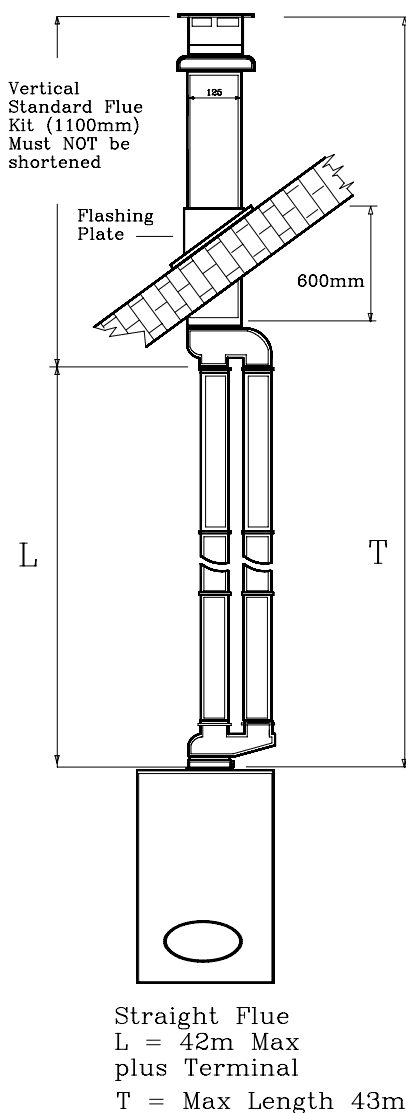

Fig. 25
**5.8.2 Exhaust/suction system with concentric pipes for flat or sloping roofs. Extensions with two separate pipes ( Fig. 25).**